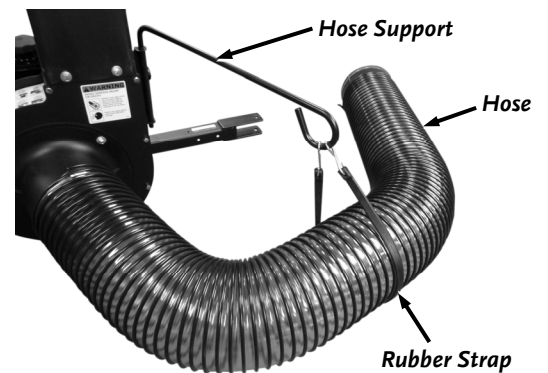

Figure 18
3. Support the Hose with the Rubber Strap by hooking one end into the Support Loop, going under the Hose and securing the other end onto the Support Loop (**Figure 18**).